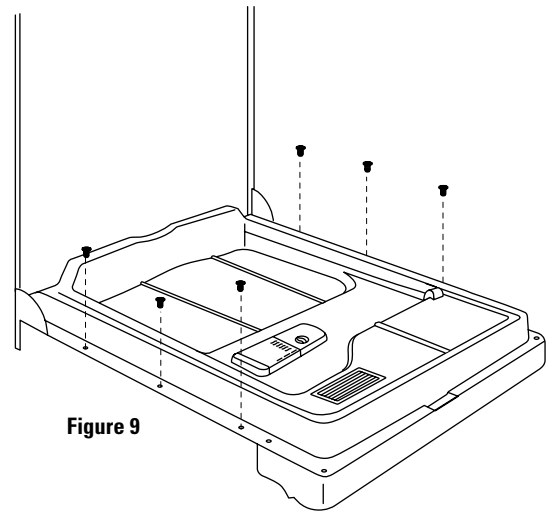

Figure 9
- Open the dishwasher door and reinstall the original 6 Phillips head screws to hold the inner door to the trim kit assembly (Figure 9).